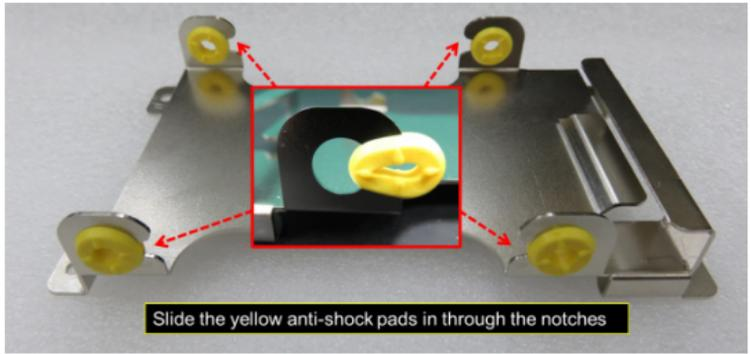

Figure 13
- 4.2.1.2 Slide in the yellow anti-shock pads into the side notches provided on the HDD tray as shown in Figure 13.